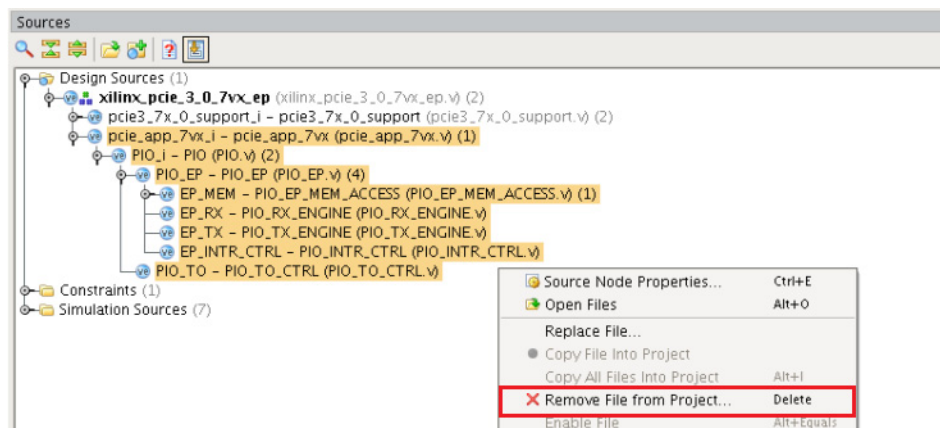

Figure 14: Remove pcie\_app\_7vx Instance Files
2. In the **Sources** tab of the example project in the Vivado IDE, select all files under the `pcie_app_7vx_i` hierarchy. Right-click the highlighted file names and select **Remove File from Project** (Figure 14).